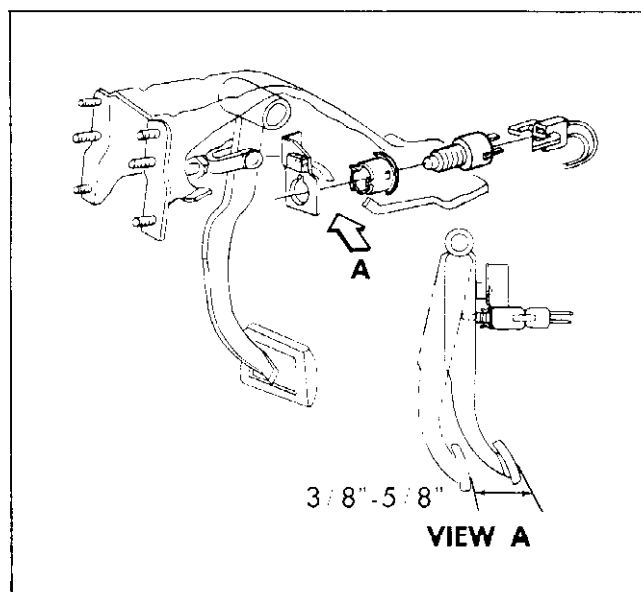

Fig. 5-6 Stoplight Switch Assembly
1. Disconnect retaining fingers, disconnect wiring harness connector from switch and unscrew switch from mounting clip (Fig. 5-6).